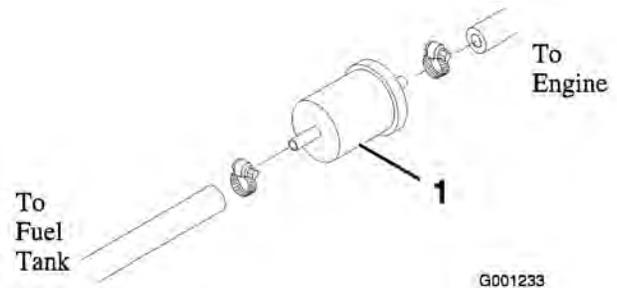

Figure 51
Replace the fuel pre filter (Figure 51), located between fuel tank and fuel pump after every 400 operating hours or yearly, whichever occurs first.
1. Clamp both fuel lines that connect to the fuel filter so fuel cannot drain when the lines are removed (Figure 51).